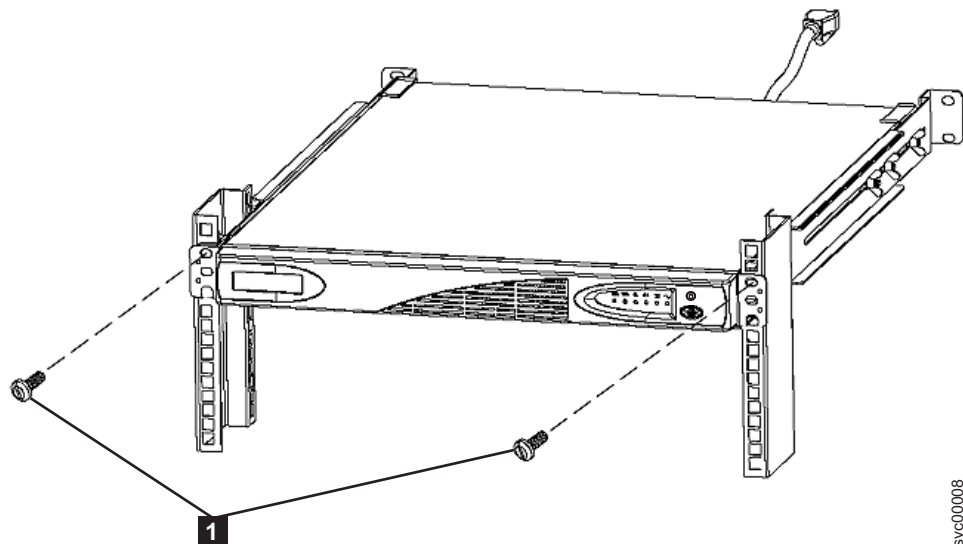

Figure 192. Removing the front screws from the 2145 UPS-1U
1. Loosen and remove the two M6 × 10 screws from each side of the 2145 UPS-1U. See **1** in Figure 192.